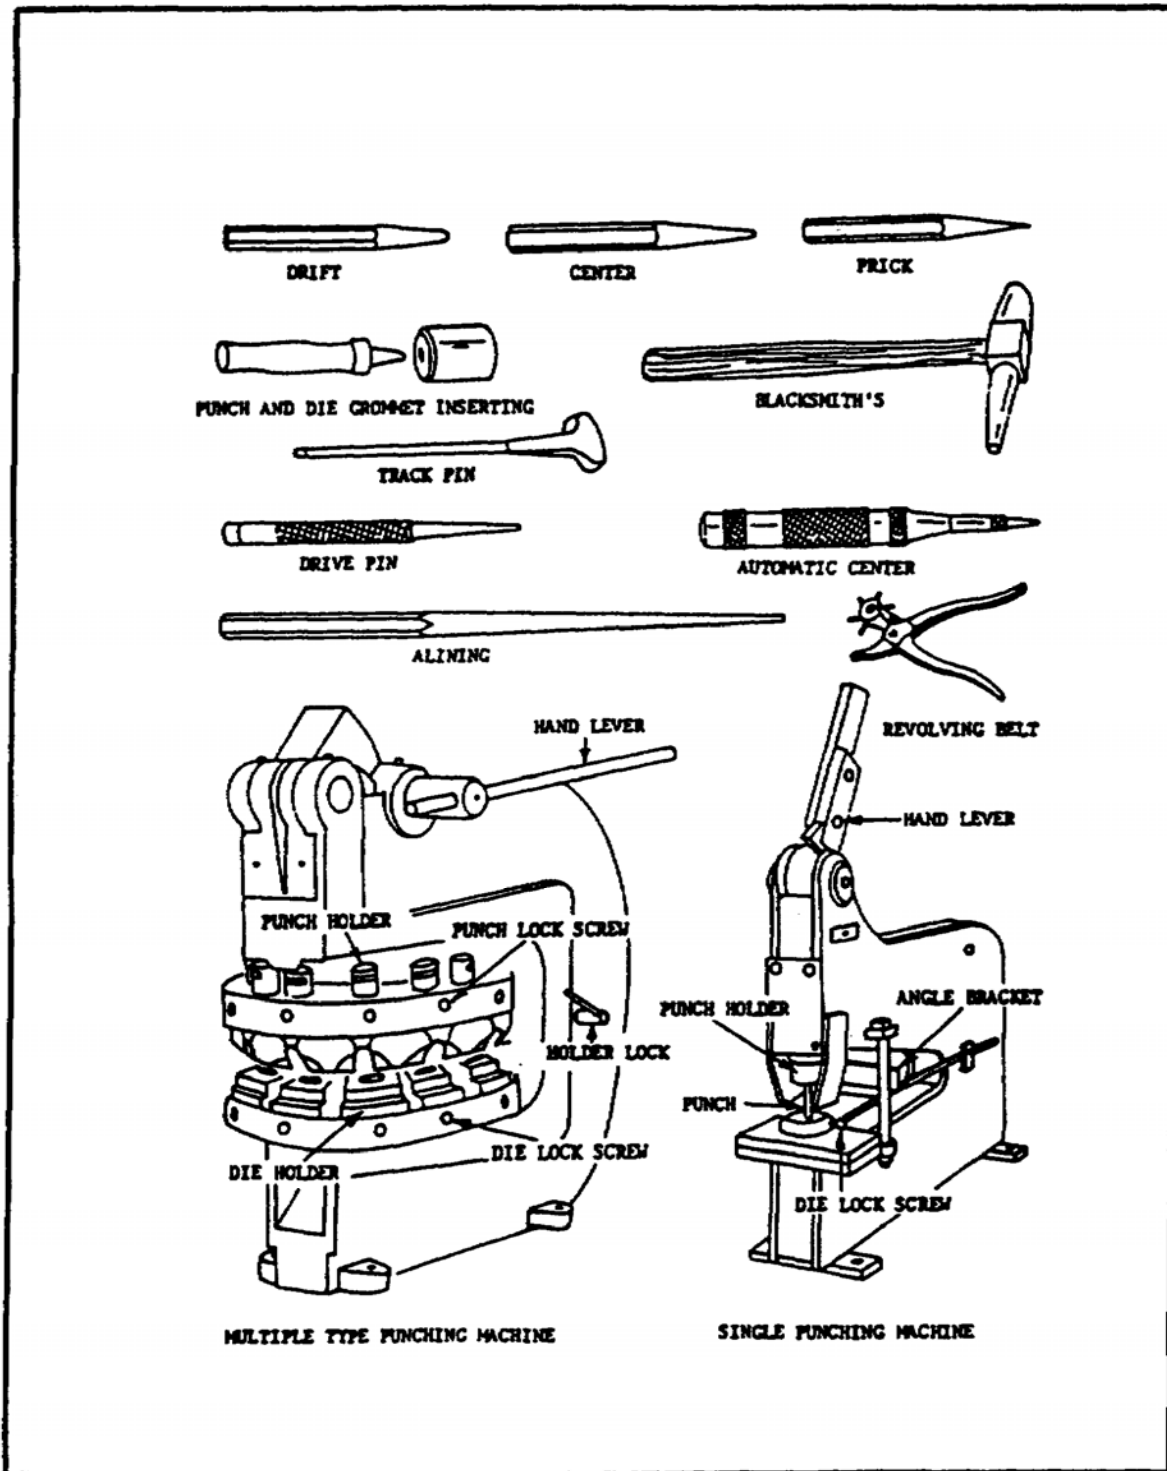
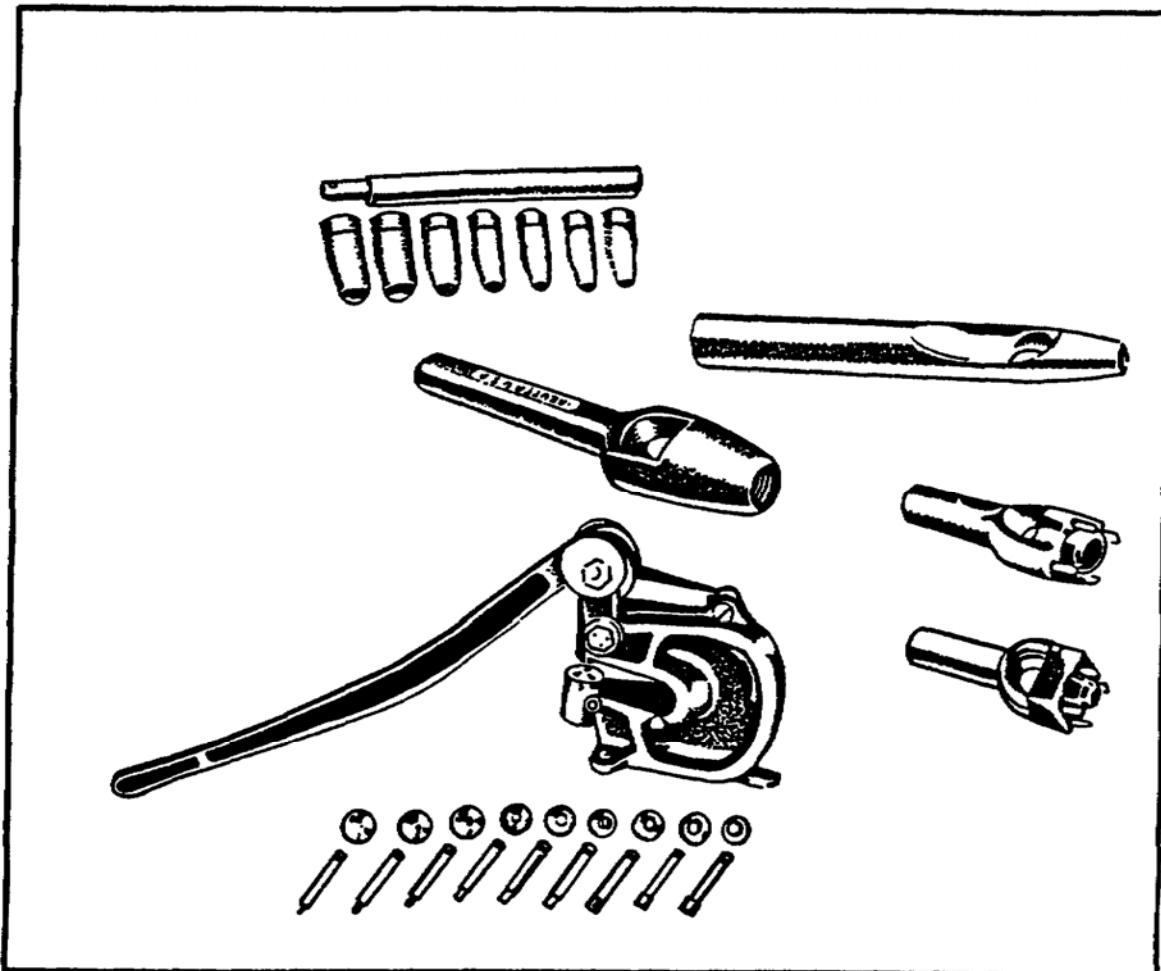

FIGURE 109. SOLID PUNCHES AND PUNCHING MACHINES.
FIGURE 110. HOLLOW PUNCHES AND PUNCHING MACHINES.
b. *Types of Punches*. The most common punches are the solid punches (figure 109) they have various shaped points. Hollow punches (figure 110) have a circular cutting edge and are sized according to their cutting diameter.